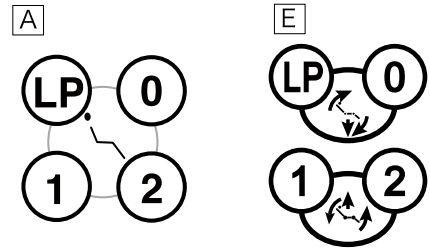

Fig.3-8 Chair Auto Mode Switches
⑥ Chair Auto Mode Switches (Fig.3-8) [A] [E]